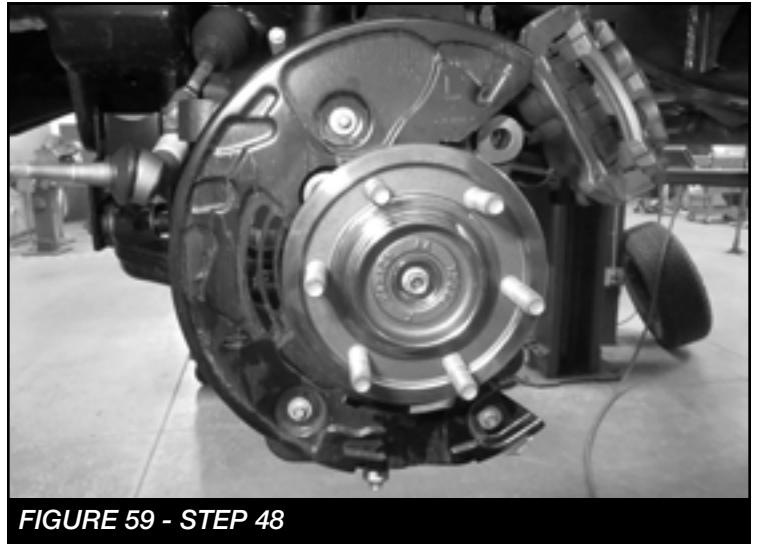

FIGURE 59 - STEP 48
48. Install the factory dust shield using the factory hardware. Torque to 14 ft-lbs. **SEE FIGURE 59**